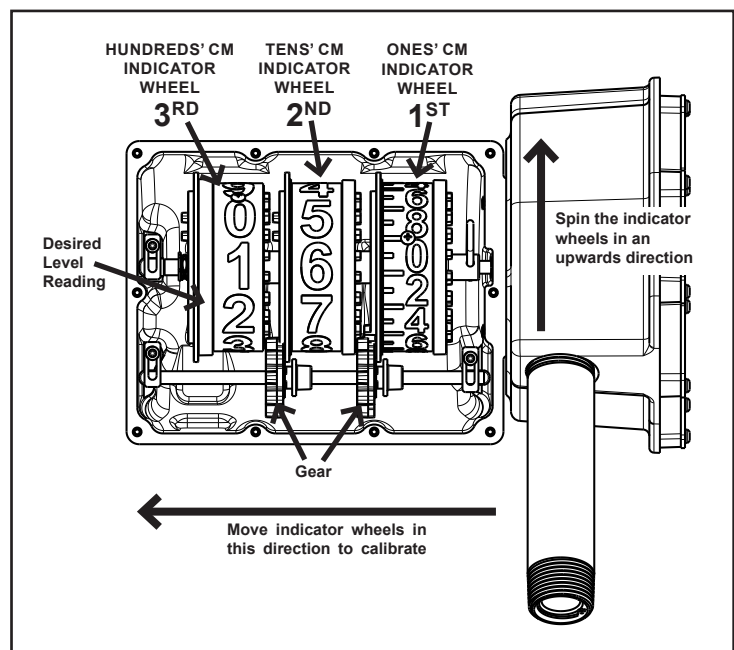

Figure 3
13. Now the gauge can be calibrated to the liquid level you found in step 4. Calibration is done one indicator wheel at a time (See Figure 3). Start with the ones' centimeter indicator wheel. Grab the indicator wheel and push it to the left to clear the drive gear. The ones' centimeter indicator wheel must be fully disengaged from the drive gear. The indicator wheel should now freely spin. Spin the wheel UPWARDS so that the numbers are counting up. Once at the correct setting, slowly let indicator wheel seat back into the drive gear. Failure to follow this procedure can cause damage to the internal mechanism and render the gauge inoperable. **Note: desired level reading needs to be in the center of the viewing window.**
14. Calibration for the tens' and hundreds' centimeter readings is done in a similar manner pushing the indicator wheels to the left so they clear the gears that are offset below the indicator wheels (See Figure 3.) Calibrate the tens' centimeter indicator wheel and then the hundreds' centimeter indicator wheel. **Note: desired level readings need to be in the center of the viewing window.**